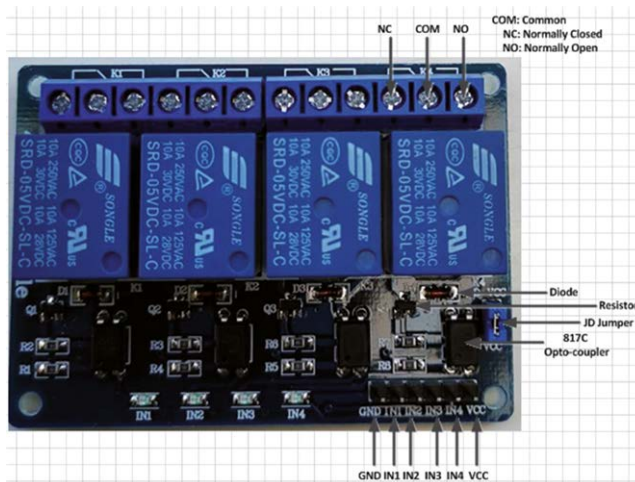

Figure 19.5 4-channel relay board
Background information: In this project, a 4-channel relay board (see Figure 19.5) from Elegoo (www.elegoo.com) is used. This is an opto-coupled relay board having 4 inputs, one for each channel. The relay inputs are at the bottom right-hand side of the board while the relay outputs are located at the top side of the board. The middle position of each relay is the common point, the connection to its left is the normally closed (NC) contact, while the connection to the right is the normally open (NO) contact. The relay contacts support AC250V at 10A and DC30V 10A. IN1, IN2, IN3, and IN4 are the **active LOW** inputs, which means that a relay is activated when a logic LOW signal is applied to its input pin. Relay contacts are normally closed (NC). Activating the relay changes the active contacts such that the common pin and NC pin become the two relay contacts and at the same time the LED at the input circuit of the relay board corresponding to the activated relay is turned ON. The VCC can be connected to either +3.3V or to +5V. Jumper JD is used to select the voltage for the relay. **Because the current drawn by a relay can be in excess of 80mA, you must remove this jumper and connect an external power supply (e.g. +5V) to pin JD-VCC.**